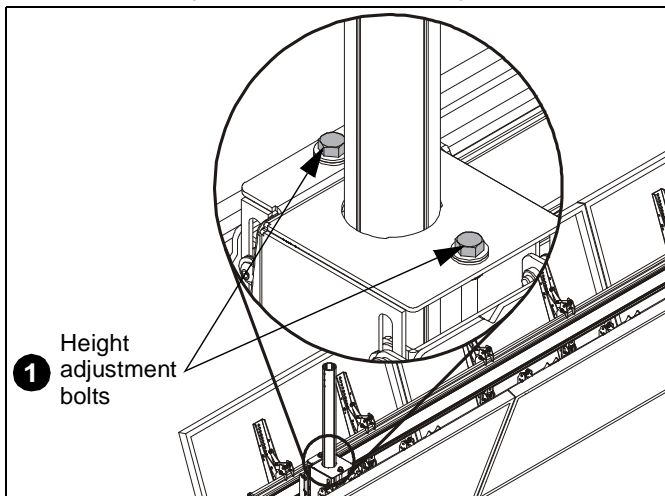

Figure 10
1. Turn the height adjustment bolt(s) in the direction necessary for the desired height. (See Figure 10)